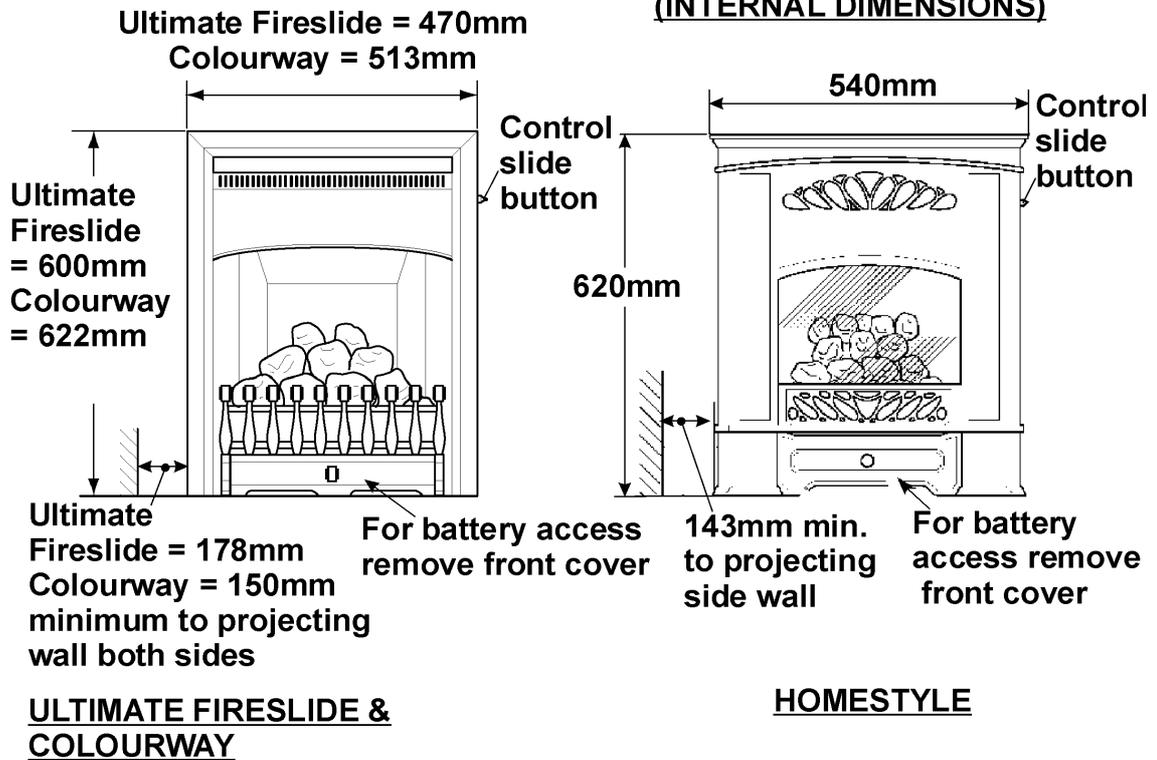

Figure 1 Dimensions & clearances
- ✓ Provide at least the minimum clearance shown in figure 1 between the outer case sides and any corner wall or other surface which projects beyond the front of the fire. Please bear this in mind if ever you are considering altering the room.